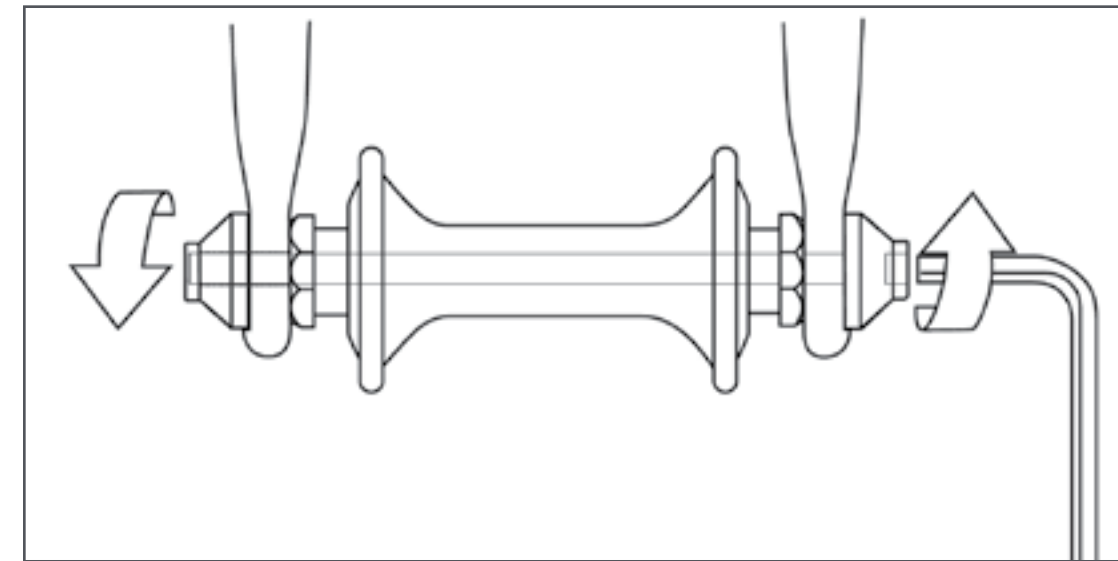

FIGURE 9
- A hollow axle with a shaft ("skewer") running through it which has a nut on one end and a fitting for a hex key, lock lever or other tightening device on the other (Through-bolt, Figure 9).